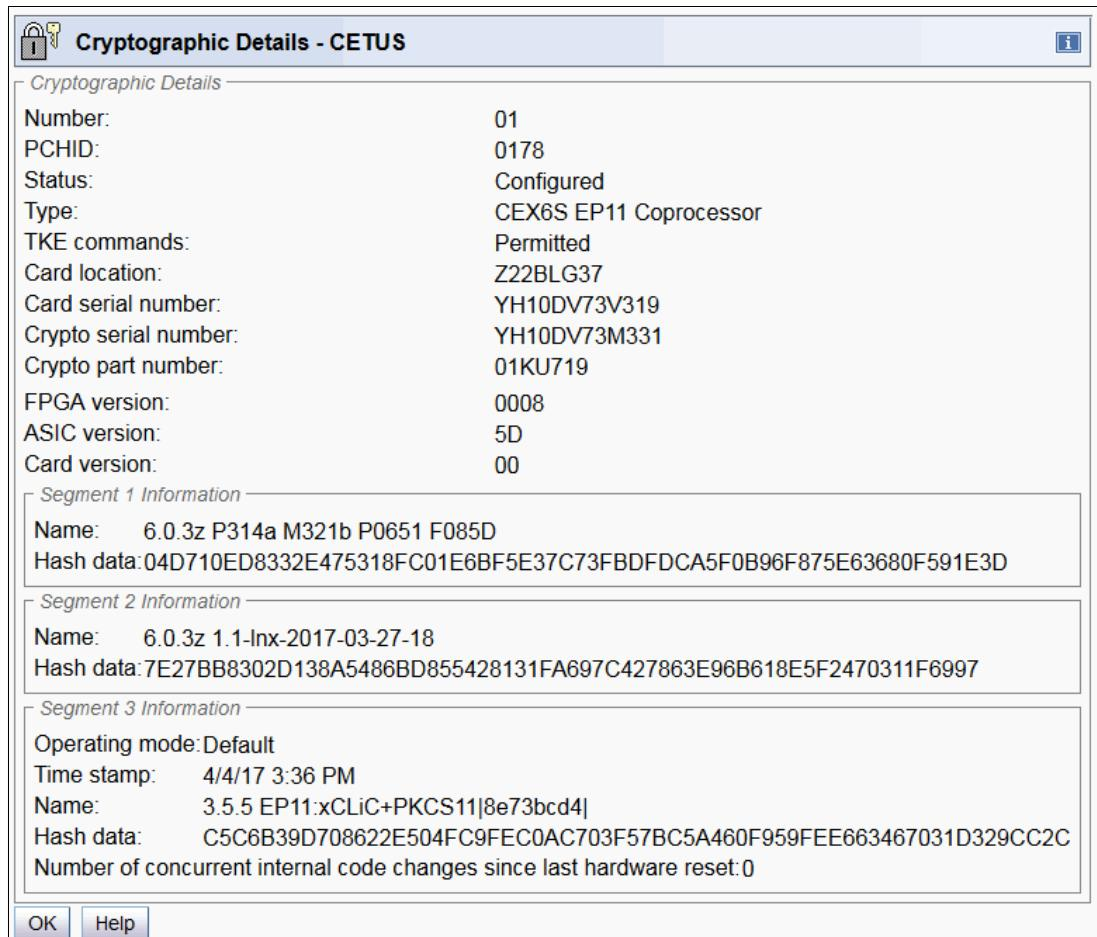

Figure 10-20 SE Cryptographic details (EP11 Coprocessor)
- Click **View Details** to display the detailed information as shown in Figure 10-20.